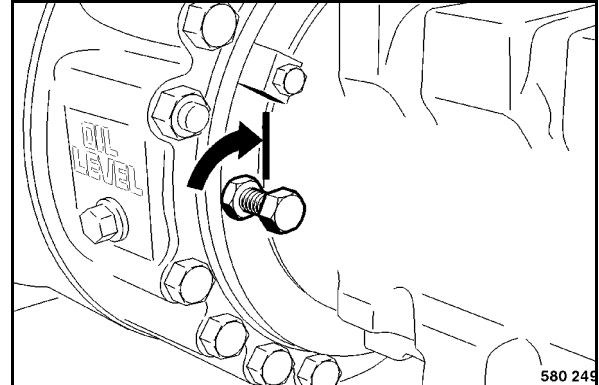

Fig. 113
- Turn the brake releasing screws (Fig. 113) back in again, until they abut against the brake piston.